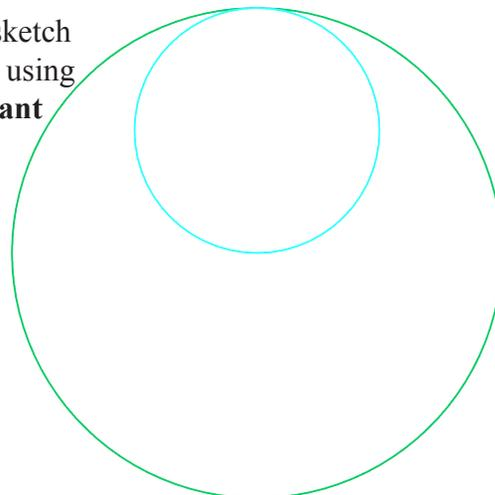

Fig. 3
Step 2. Use the **upper quadrant and Origin** for the two points to sketch circle, **Fig. 3.**